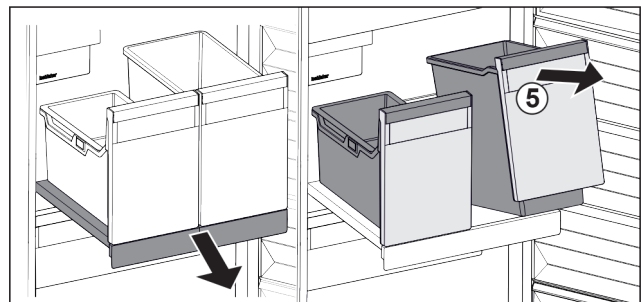

Fig. 25
- ▶ Lift the container *Fig. 25 (5)* at the front.